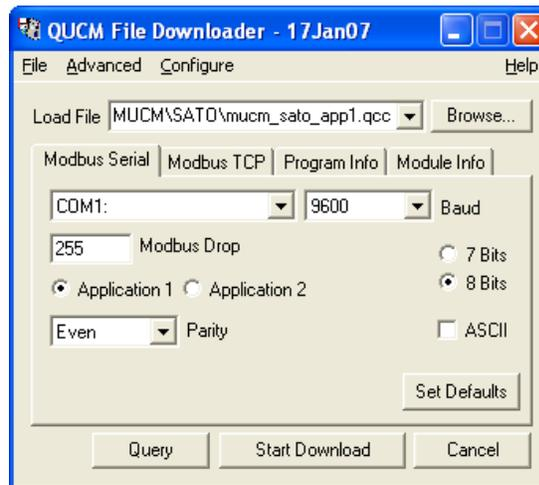

Figure 2-4 QLOAD Window
- 3 Press the "Start, Programs, Niobrara, MUCM, Apps, SATO, QLOAD SATO Application 1". A window like Figure 2-4 should open.